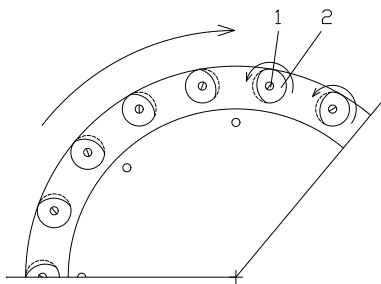

Fig. 85 The discs can be turned
In time the discs on the driving wheel may be worn out. They can be turned around one time, so a new wearing surface is available. The screws (pos. 1, Fig. 85) holding the discs are loosened and then each disc (pos. 2, Fig. 85) is turned a half round, and the screws are tightened again.